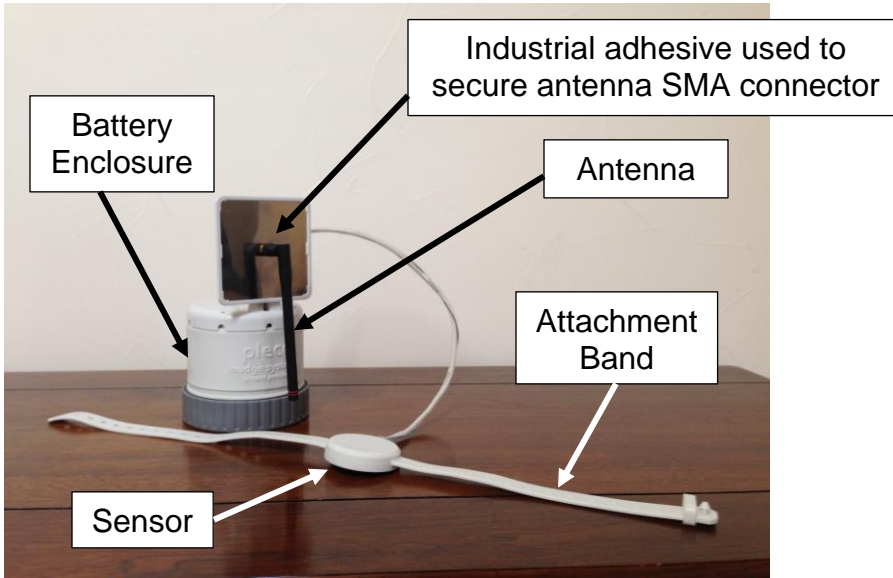

Fig. 2a: SU with stowed antenna
The Sensor Unit (SU) consists of a Sensor and Attachment Band, a Battery Enclosure and Antenna. Figures 2a and 2b show the Sensor Unit (SU) with the antenna stowed and deployed respectively and identify the main components of the Sensor Unit (SU). Industrial adhesive is used to secure the antenna SMA connector in place preventing user removal of the antenna without damage to the system.